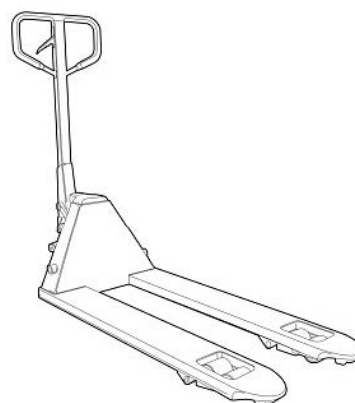

Fig 2 . Pallet Jack
- With the spark proof refrigerator or freezer being on a skid it can be moved around using a pallet jack until it is unpacked. (Fig 2)